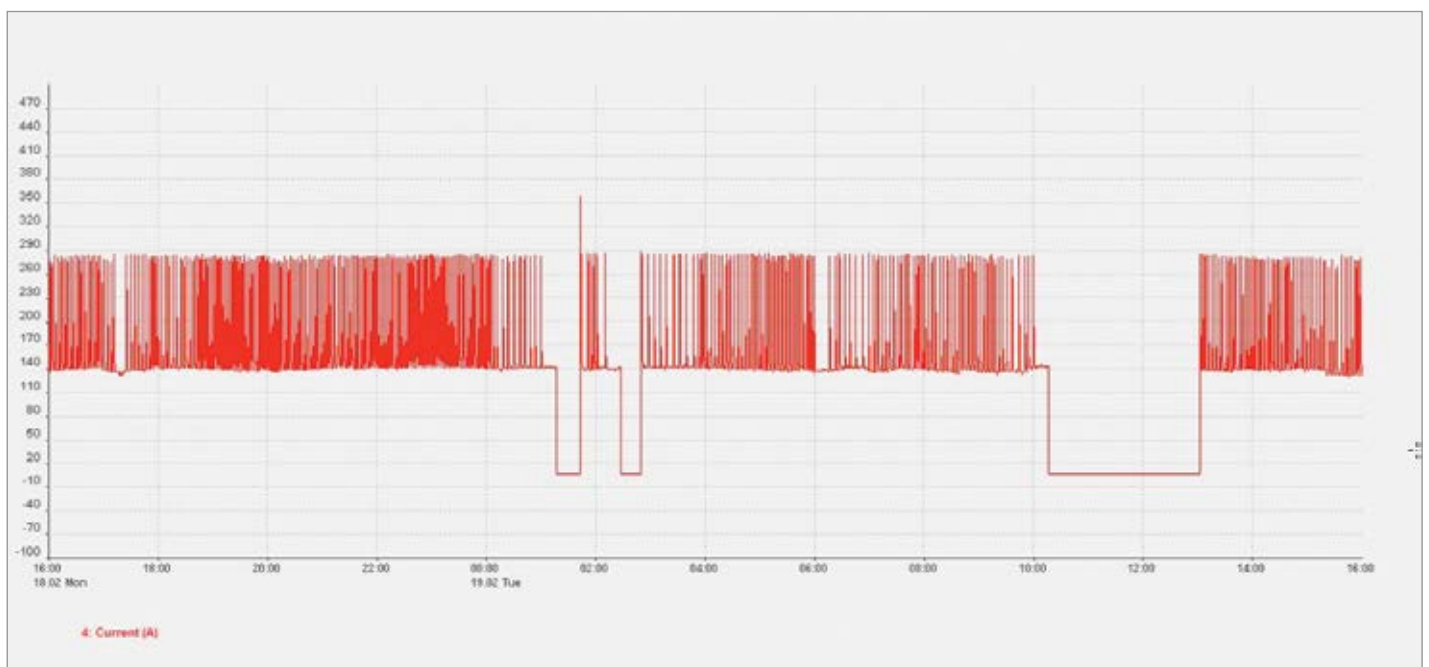

Figure 2: This measured air compressor was wasting substantial power running unloaded.
1.47 m³/min (51 scfm). In general, the loading cycle was enough to prevent the compressor from going into complete standby mode. From the power consumption data (Figure 2) BVRG and Boral were able to determine that this compressor ran loaded 7%, unload 89% (but still consuming power) and standby 4%.
With a much clearer picture of their system loading, the company realized that if the system flow could be reduced by only a small amount, the lag air compressor could be turned off. They have since rectified leakage and efficiency issues, which has seen the compressor hours virtually eliminated (see figure 2). The energy savings from this work are estimated at approximately \$30,000 per annum plus additional maintenance and capital savings. In the future, once further leakage repairs are completed, it is expected that air demand on the lead compressor will also be reduced, resulting in additional savings.